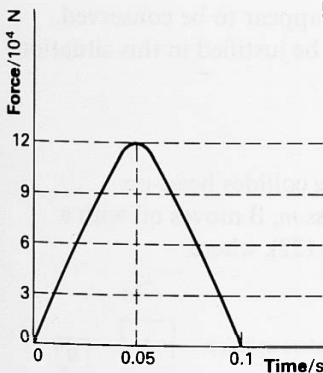

Figure A120
- 52(R) A car of mass 600 kg travelling at a steady speed crashes into a rigid wall. From the time at which the car hits the wall until it stops, the engine compartment is crushed so the main body of the car continues to move forwards. The graph (figure A120) shows how the retarding force on the main body of the car varies with time from the initial impact ( $t=0$ ).
- Sketch a graph of the velocity of the main body of the car against time until it came to rest. Explain how your graph is related to the one shown in figure A120.